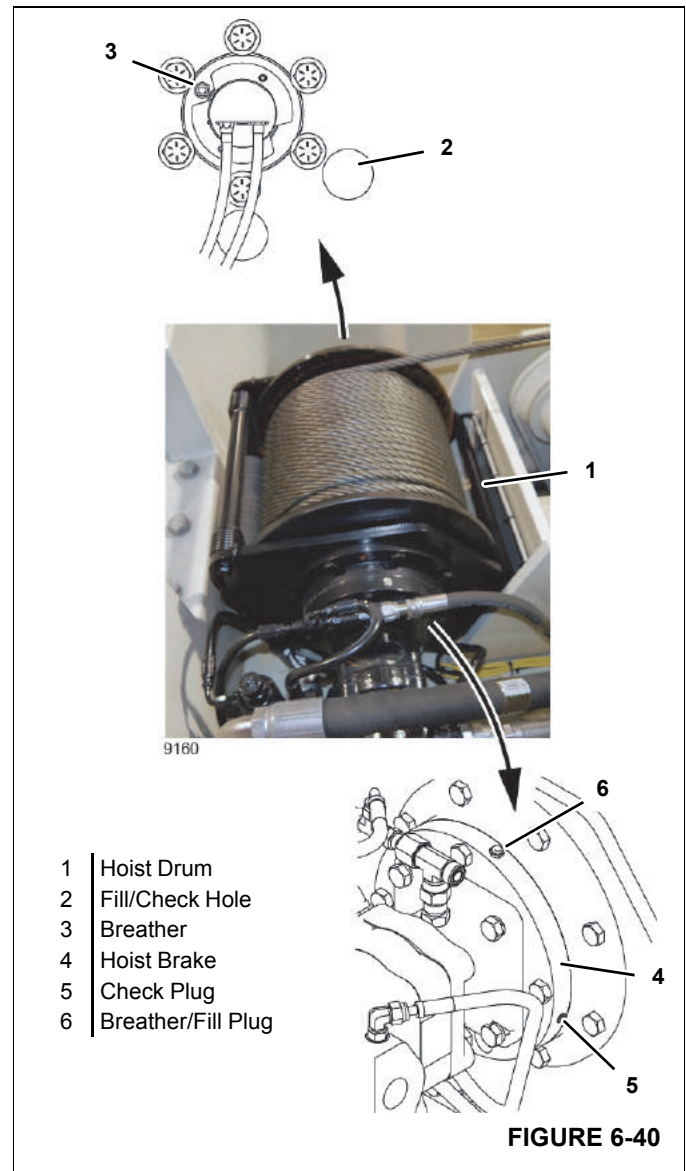

FIGURE 6-40
2. Service the hoist gearbox as follows (see Figure 6-40):
- a. Rotate the hoist drum (1) until the plug is in the fill/check hole in the hoist frame.